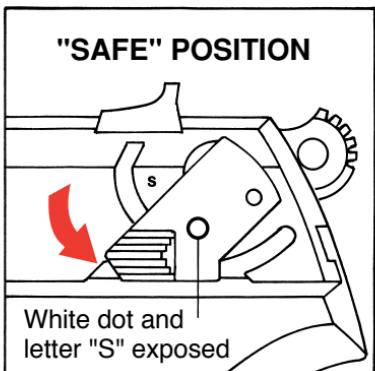

FIGURE 1
To apply the manual safety and decock the pistol, point the pistol in a safe direction. Move either the right- or left-hand safety lever fully to the "safe" position. When the safety is moved fully downward to the "safe" position, the white dot is exposed through the hole in the side of the safety and the letter "S" is completely visible. See Figure 1, p. 11. In this position (1) the firing pin is blocked from moving forward, (2) the hammer is blocked from contacting the firing pin, and (3) the entire firing mechanism is completely disengaged from the trigger. At this point, the hammer will fall to its forward (decocked) position.
The pistol can and should be loaded and unloaded with the safety engaged in its "safe" position (lever fully down, white dot and the letter "S" exposed). **The safety should be in its "safe" position at all times except when the user is deliberately positioned to fire at a selected target.** See Figures 1 and 2, below, which illustrate the two positions of the safety.
2. **Move either the right- or left-hand safety lever fully downward to its “safe” position so that the letter “S” and the white dot are fully exposed.** (See Figures 1 and 2 on page 11.)
The trigger is inoperable when the safety is fully engaged in its "safe" position (lever fully down, white dot and letter "S" exposed; see Figure 1 on page 11).
7. If the pistol is not to be fired immediately, the safety should remain in its "safe" position. (See Figure 1, p. 11.)
1. The muzzle of the pistol must be pointing in a safe direction at all times, and fingers should be outside of the trigger guard. Put the safety in its "safe" position (see Figure 1 on page 11) by rotating the safety fully downward until the letter "S" is fully exposed and the white dot shows. The safety can be engaged whether the pistol is cocked or not.